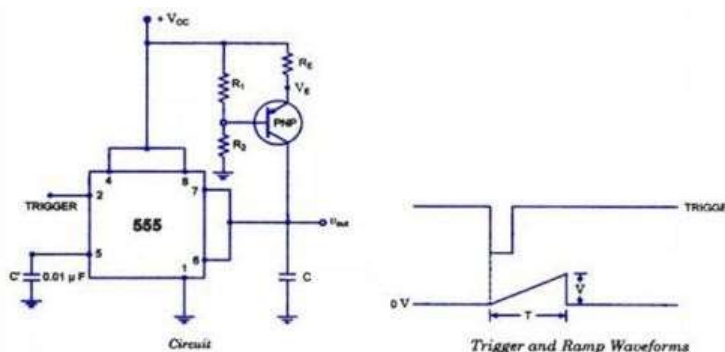

Figure 5.4.11 Ramp generator using IC 555 Timer and its waveforms
- Ramp generator using IC 555 Timer and its waveforms is shown in figure 5.4.11. The astable multivibrator can be used as a free – running ramp generator when resistor